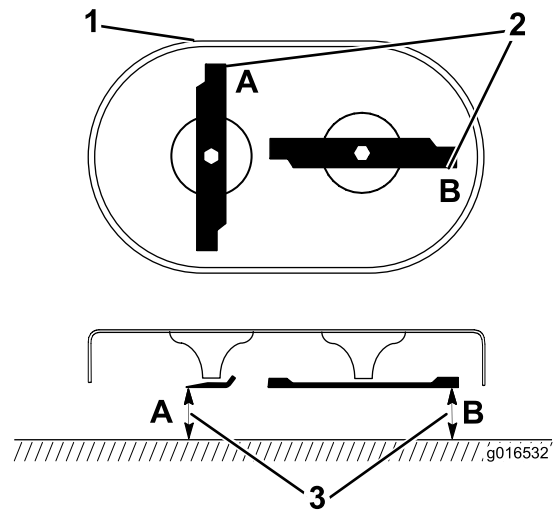

Figure 39
1. Rotate the blades to the position shown in Figure 39.
2. Measure from a level surface to the cutting edges at locations **A** and **B** (Figure 39), and record both dimensions.
3. Rotate the blades so that their opposite ends are at locations **A** and **B** (Figure 39).